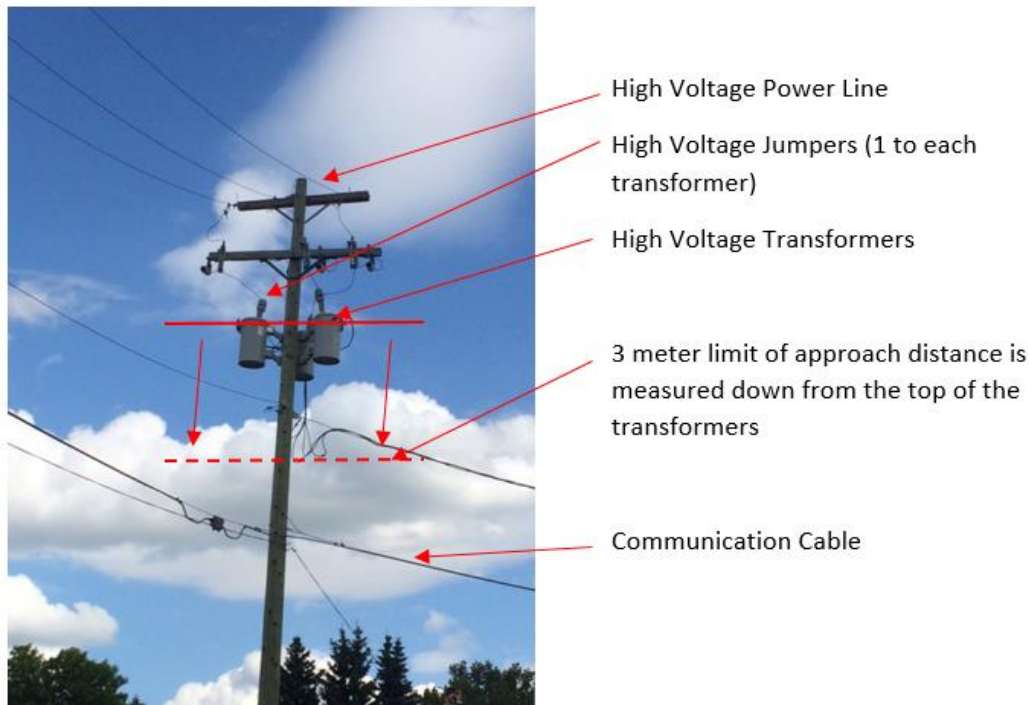
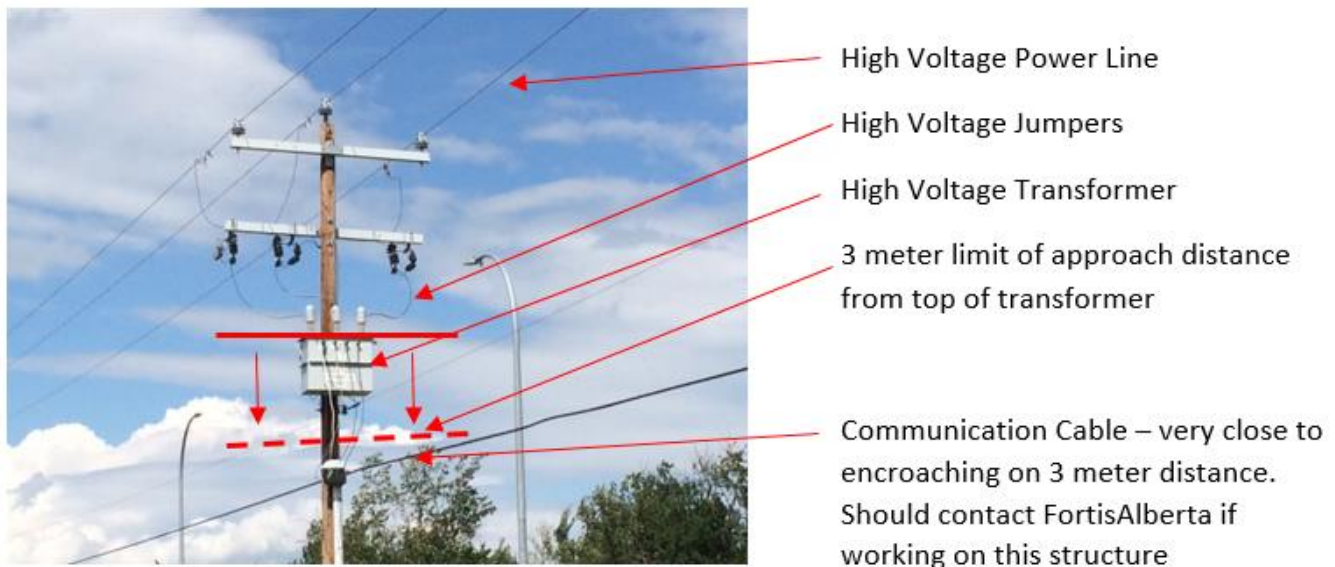

Figure 12 - Three Phase Power Line with 3 Individual Transformers
Figure 13-Three Phase Power Line with 3 Phase Transformer (one tank)
- 7.3.6. Figures 12 and 13 are examples of two different types of 3 phase transformers that are common on Fortis structures. Figure 12 consists of 3 individual transformers while Figure 13 is one individual 3 phase transformer housed in one tank.
In Figures 12 and 13 the tops of the transformers are energized at the same high voltage at the overhead powerline. As this is the lowest point on the structure that the high voltage could be contacted, the 3 meter limit of approach is measured down from the top of the transformer as indicated by the solid line down to the dotted line.